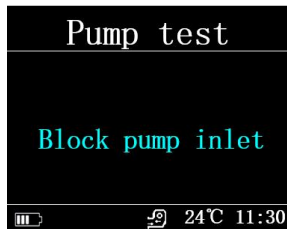
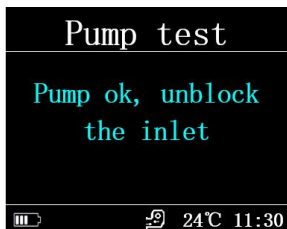

Figure 6
Figure 7
- Please block the air inlet when it shows as Figure 6. After 1s the pump test ok and is shows as Figure 7. If the pump is damaged or pump function is weak,
and there is no any operation under the interface of Figure 6 lasted 40s, the detector will display the following interface: